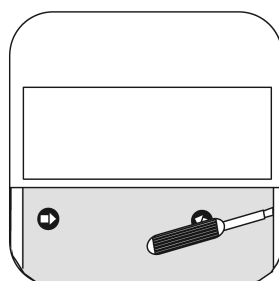

Figure 11: Dismounting of design cover
- Use a screwdriver to carefully remove the design cover (Figure 11).
The adjusters for brightness threshold and sensitivity are located behind the cover (1) of the motion detector cover 1.10 m and on the rear of the motion detector cover 2.20 m. Using a screwdriver, carefully remove the cover (1) (Figure 11). The run-on time cannot be changed.